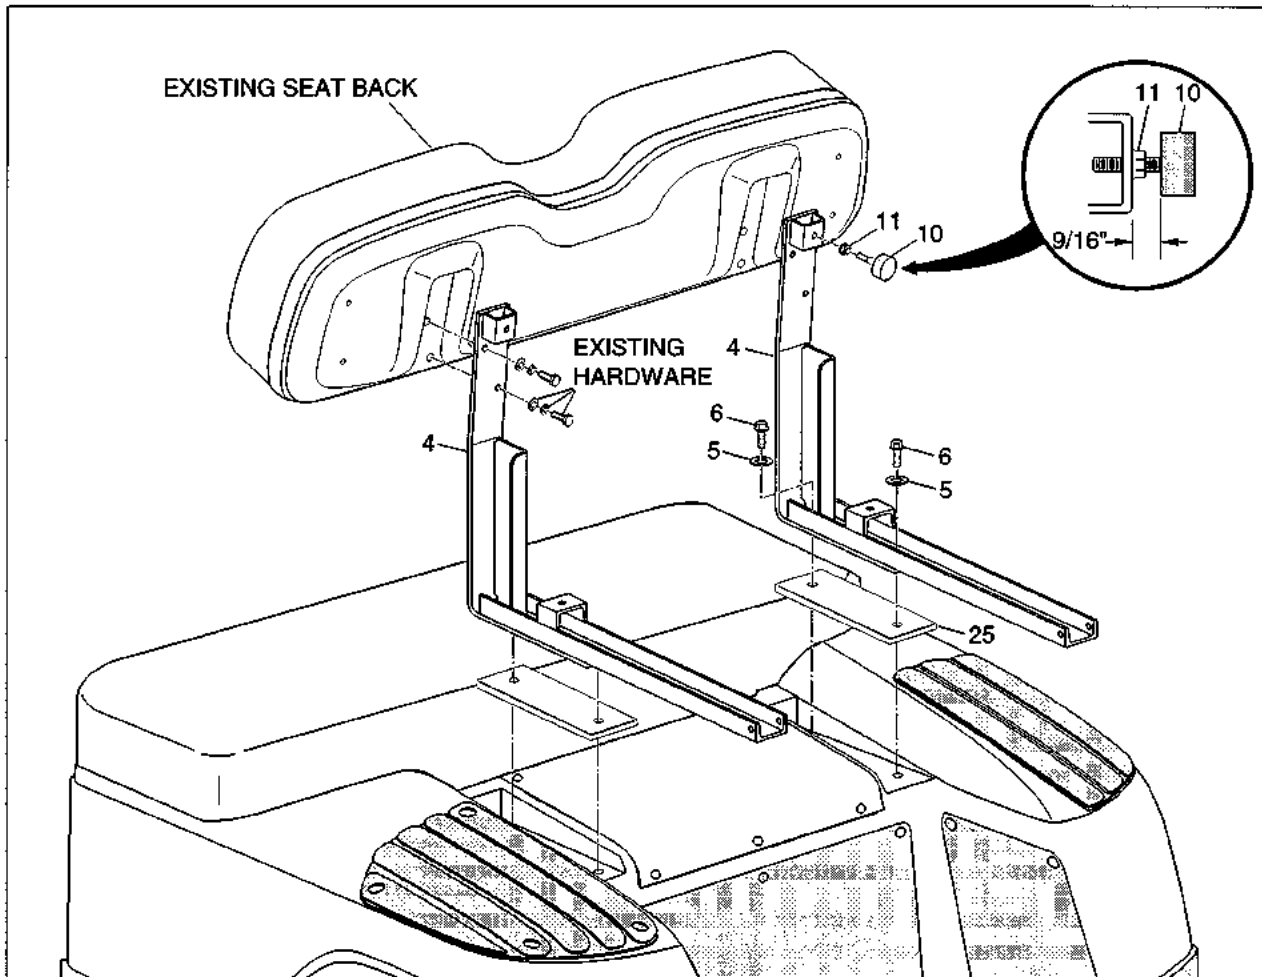

Fig. 3
### B. INSTALLING SEAT BACK SUPPORT (Refer to Fig. 3)
4. Install rubber bumpers (item 10) on vertical part of seat support bracket using one lock nut (item 11) (per bumper) as shown in Fig. 3. Tighten to dimension specified.
5. Tighten bolts (item 6) to 21 - 25 ft. lbs. torque.
#### G. INSTALLING SEAT ASSEMBLY (Refer to Fig. 3)